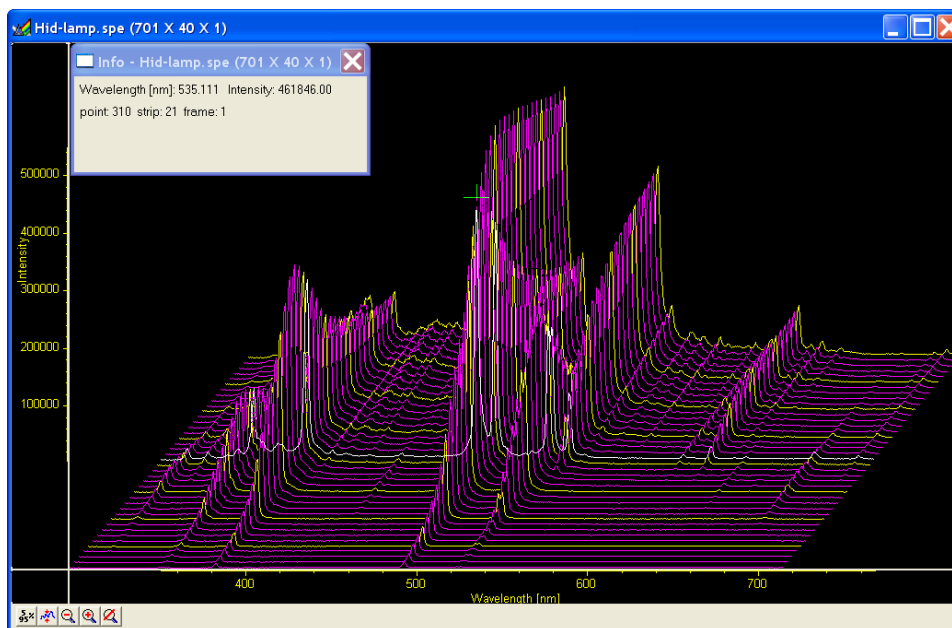

Figure 80. 3D Display with Cursor curve and Marker Curves
1. On the **3D Layout** tab, select **Highlight Cursor Curve** and **Marker Curves On**. Then press **OK**. The cursor curve and marker curves should be clearly delineated. Note that on a color monitor they would be in contrasting colors and much easier to see than in a black and white print as shown in Figure 80.